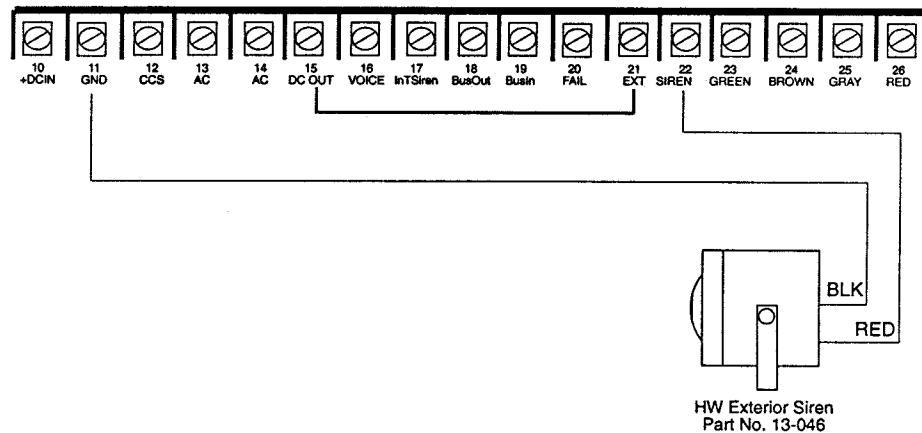

Figure 3.10. Wiring a Hardwire External Siren
6. Connect the siren wires (see Figure 3.10).